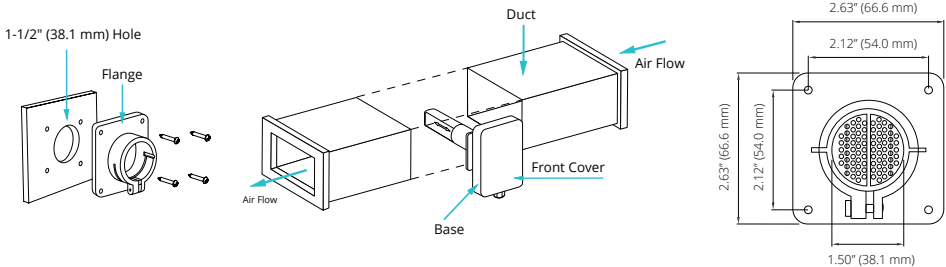

Figure 7 Duct Mount with Flange
5. Insert the AcuCO2 DM into the fixed flange. Adjust the probe a minimum depth of 4" (100mm) and maximum of 6.5" (165mm). Use the remaining screw to tighten the flange clamp to secure probe. The duct connection will be air-tight after installation. Refer to Figure 7 for details.